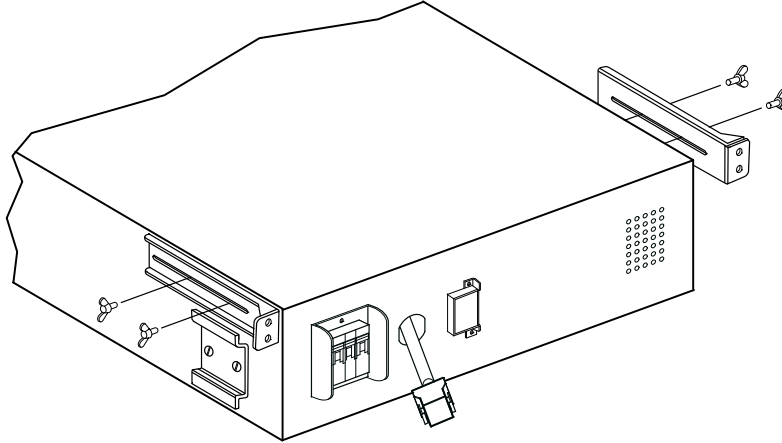

Figure 8. Installing the Optional EBM Seismic Mounting Brackets
15. If installing the optional seismic mounting brackets, align the two EBM seismic mounting brackets with the screw holes on the sides of the EBM above the rear mounting brackets. Loosely secure the brackets with four supplied wing bolts. See Figure 8.